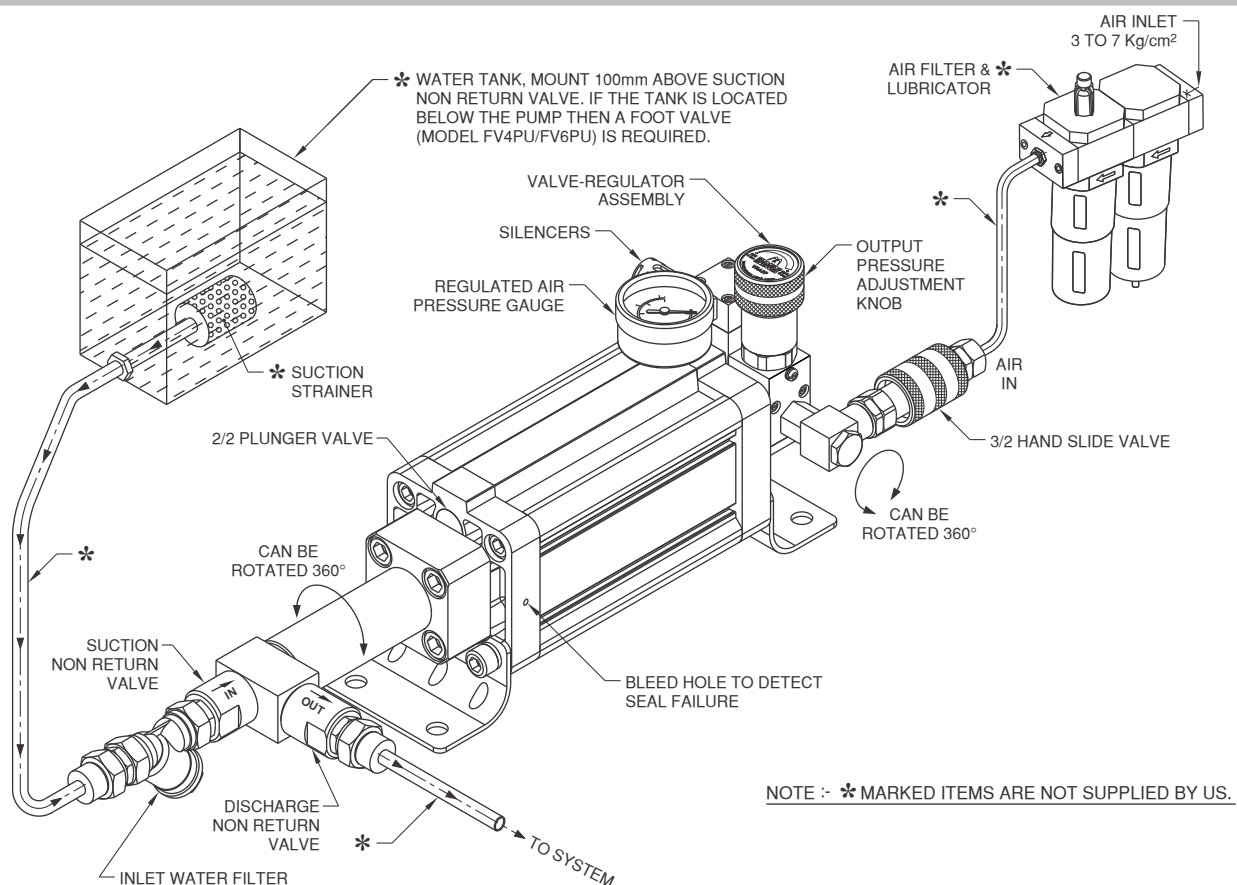
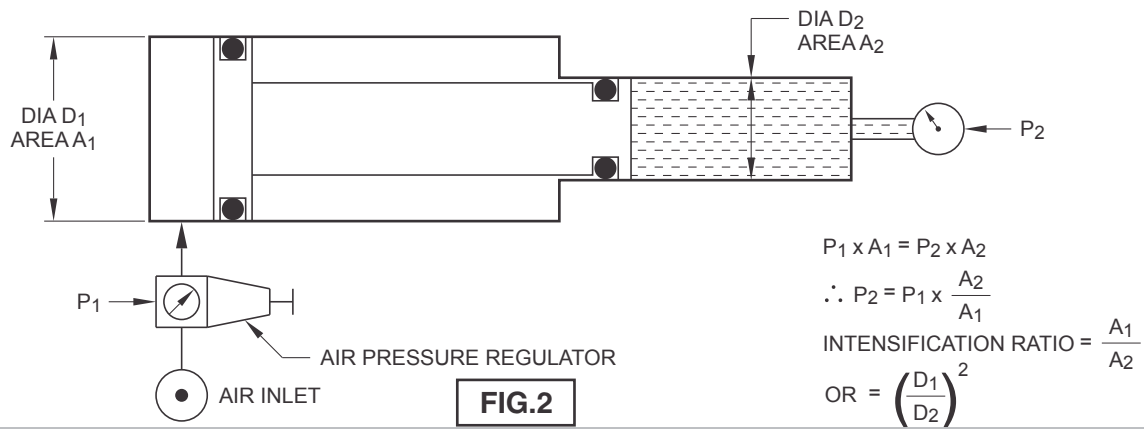
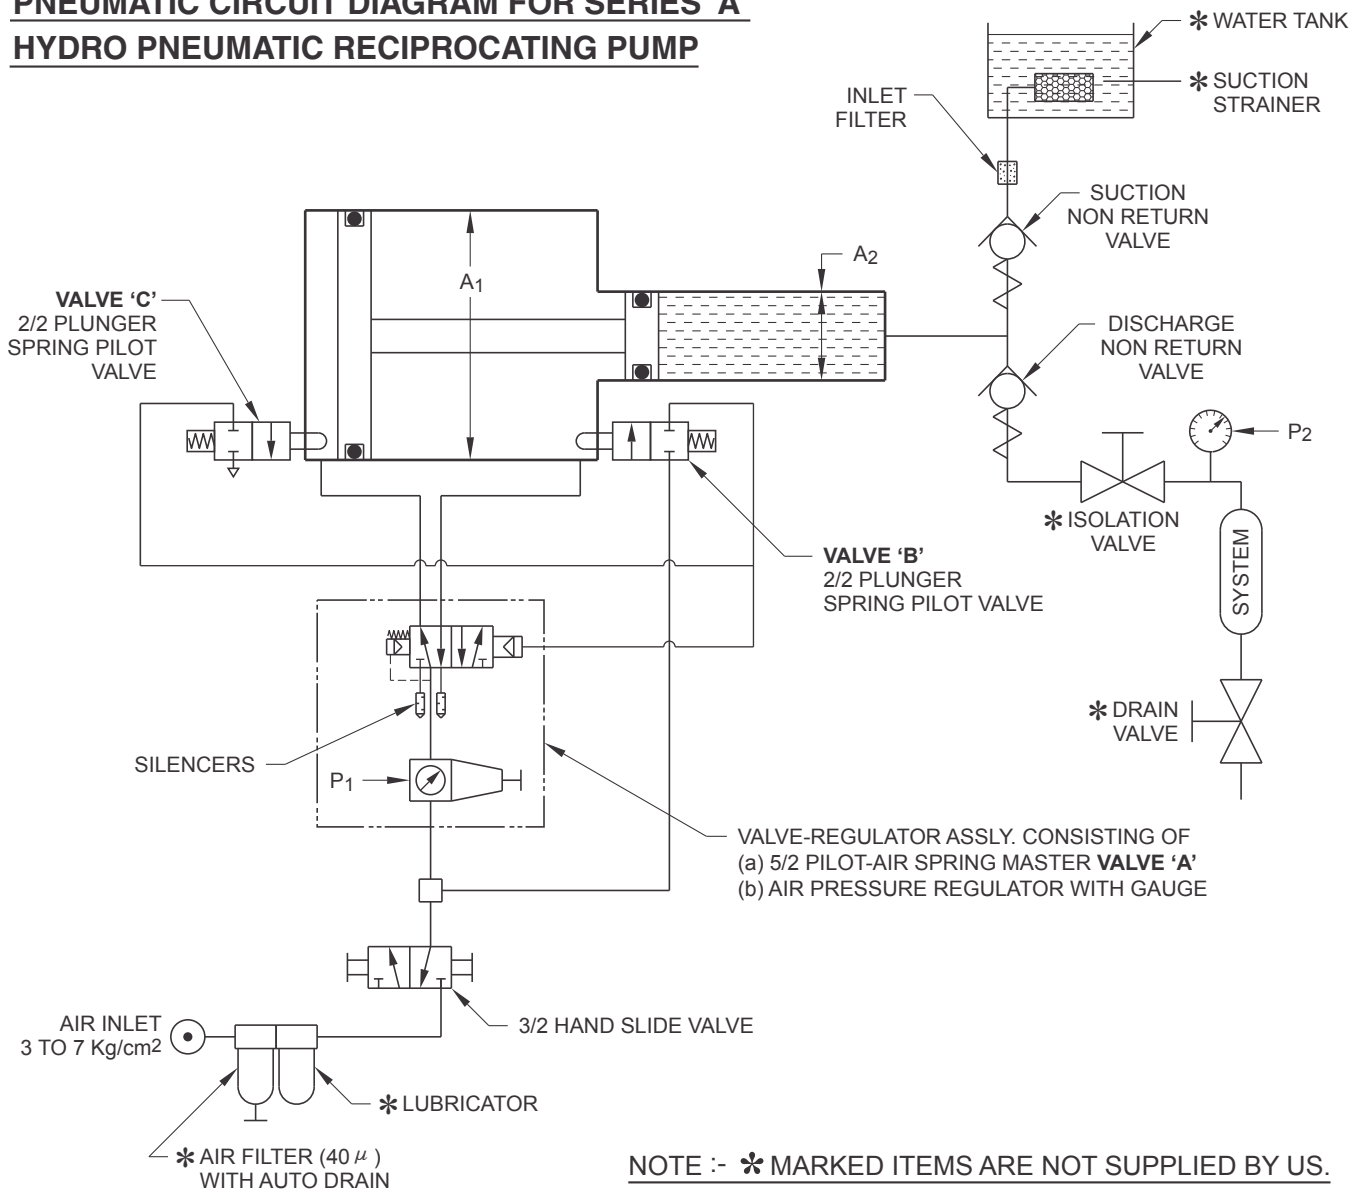
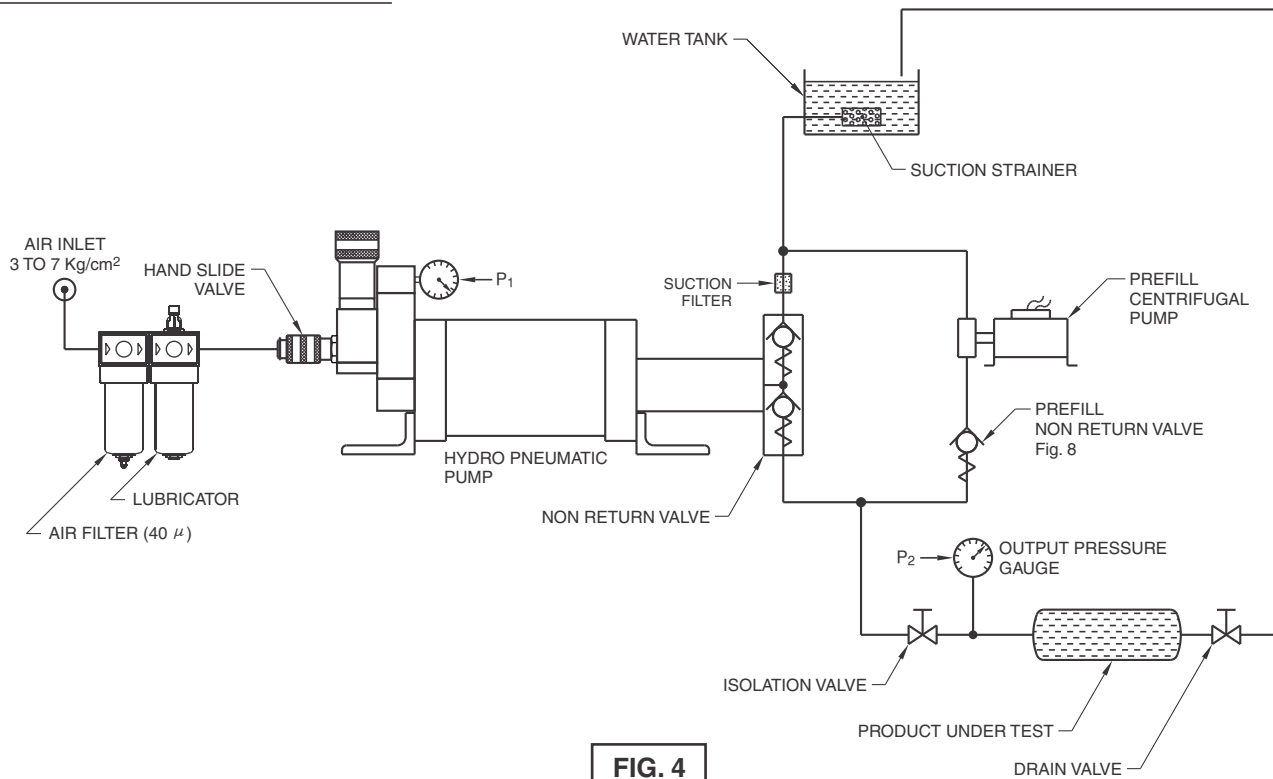

FIG. 1
FIG.2
FIG. 3
FIG. 4
6.1 The general layout of components used for proper installation of our Hydro Pneumatic Pump is given in **Fig.1**. The principle of operation is given in **Fig.2**, **Fig.3** and **Fig. 4**.
6.3.1 The heart of **MERCURY** pumps is an air to liquid Intensifier or Booster which is diagrammatically shown in **Fig. 2**.
The air to liquid intensifier shown in **Fig. 2** is converted into a pump by automatically reciprocating the pneumatic cylinder by suitable valves as shown in **Fig. 3**.
The general layout of a hydrostatic pressure testing setup is shown in **Fig.4**.